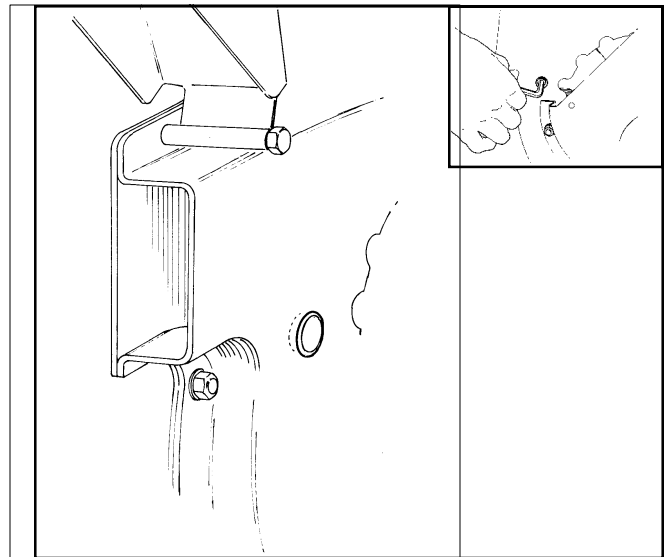

Figure 18. Chipper Knife Access Plug
4. Using a 1/4" hex wrench, loosen and remove the two socket head cap screws holding the chipper knife in place (access the screw heads from the rear of the unit), and remove the chipper knife. See Figure 18 for location and temporary removal of an access plug that permits removal of the capscrews.
8. See Figure 18. Reinstall the access plug removed earlier for capscrew access.